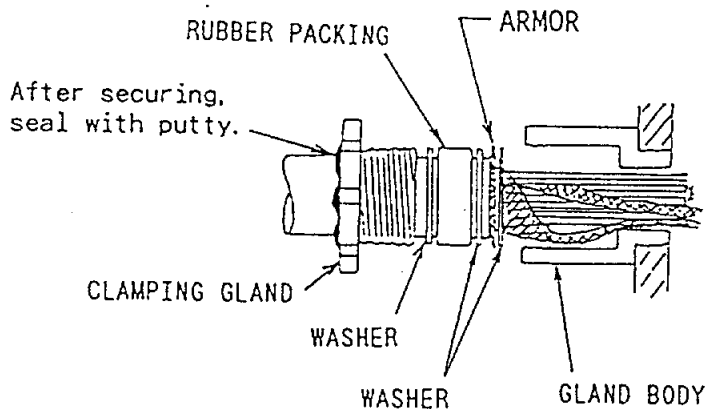

Fig.2-6
- 5) Ground the armor through the two washers as shown in Fig.2-6. Trim the shields considering their location on the earth terminal inside the scanner unit, fit a crimp-on lug (yellow, FV5.5-4 ϕ 4) to inner/outer shields, then connect to the ground terminal in the scanner unit.